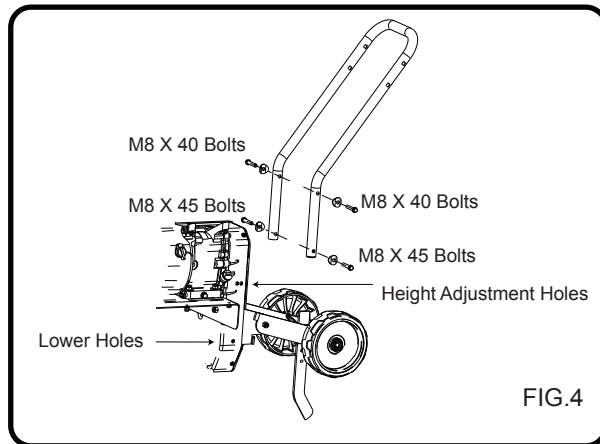

FIG.4
Step 4: Installing The Lower Handle (See Fig.4)